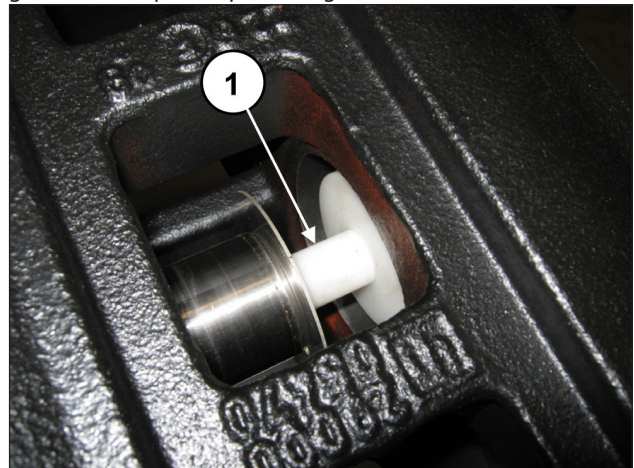

Fig. 168
Insert the buffering tool code 27632500 between the piston guide and the piston (pos. ①, Fig. 168).